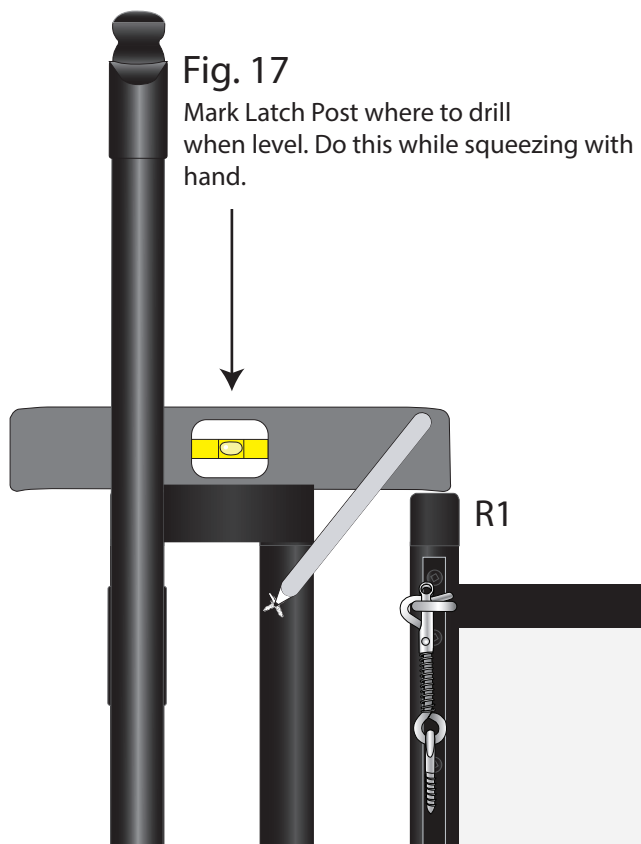
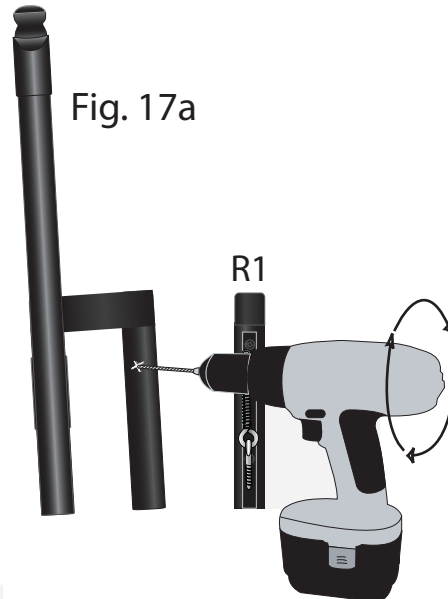

Fig. 17
Fig. 17a
- This post should also be level. Squeeze R1 and the Latch Post until the latch post is level, then mark where to drill. See Fig. 17. Next, using your drill with the 1/8" drill bit, drill a hole into the front of the Latch Post and bevel. See Fig. 17a. Disconnect the latch from Pole R1 and screw it into the Latch Post. See Fig. 17b. Now squeeze the Latch Post and Pole R1 and connect using the latch you just installed.